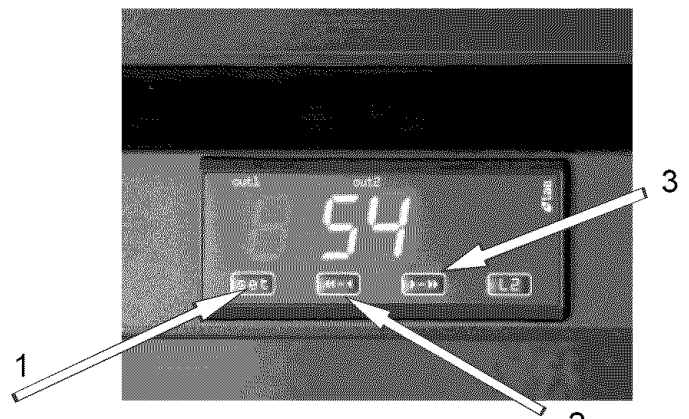

FIG 6
(see FIG. 6)
1. Press button [1] (see FIG. 6). While pressing button [1] go to next point (2)
2. Use buttons [2] and [3] (see FIG 6) to lower or increase the temperature.